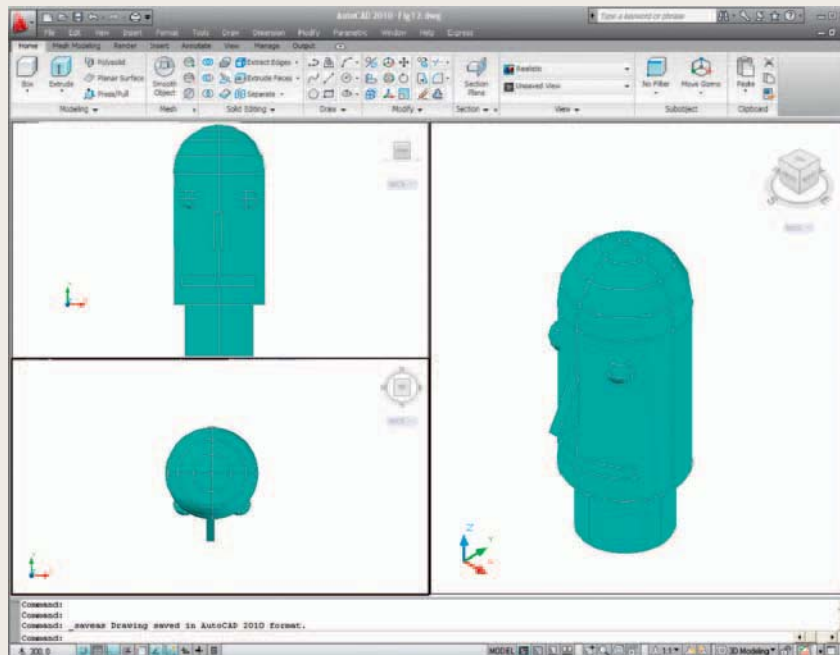

Fig. 13.12 Exercise 1
1. Using the **Cylinder**, **Box**, **Sphere**, **Wedge** and **Fillet** tools, together with the **Union** and **Subtract** tools and working to any sizes thought suitable, construct the “head” as shown in the **Three: Right** viewport in Fig. 13.12.